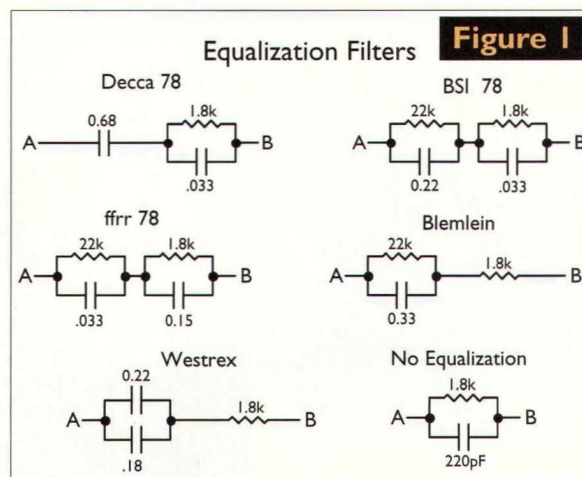

Figure 1
A. No. It was real. Many of the earlier 78 RPM recordings had equalization (unlike the acoustical recordings of Wm. Motley). The problem is that there was no standard at that time, and every label made up their own equalization curve. The RIAA standard wasn't introduced until the LP came along in the '50s. Figure 1 shows equalization filters for five popular 78 RPM curves, plus a straight through "filter" for those Edison cylinders. Simply insert the proper filter in the phono preamp feedback loop